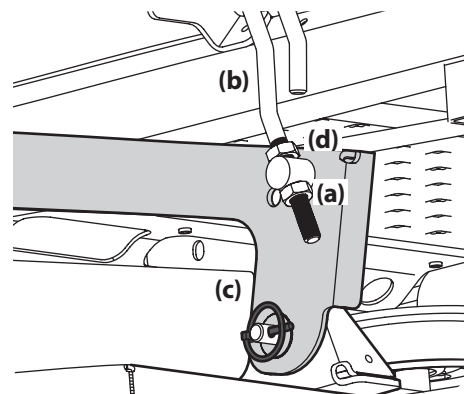

Figure 4-7
3. Loosen the lower jam nut (a) on the adjustable lift link (b) attached to the deck lift arm (c) to lower the deck and tighten the upper jam nut (d) to secure the deck in place, loosen the upper jam nut (d) then tighten the lower jam nut (a) to raise the deck and secure the deck in place. See Figure 4-7.